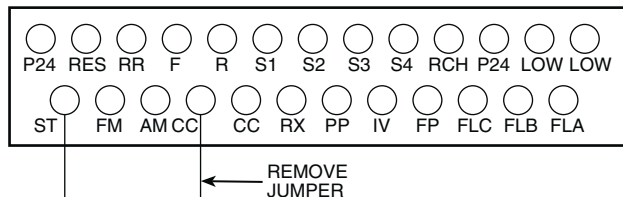

Fig. 41 — Jumper Removal to Disable Motor
4. Remove jumper from terminals ST-CC (see Fig. 41) and replace VFD cover.